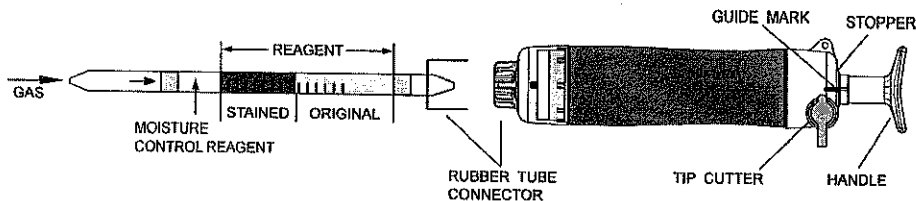

Fig.1
- ① Break both ends of detector tube.
- ② Insert the detector tube into aspirating pump securely as shown in Fig.1. (Arrow mark shall point to the pump.)
- ③ Align the guide marks on the shaft and stopper of the aspirating pump.
- ④ Pull the pump handle at full stroke until it locks and wait for 0.5 minutes or until the completion of sampling is confirmed with the flow indicator of the pump (See descriptions about the flow indicator in the instructions of the pump).
- ⑤ On completion of sampling, read the scale at the maximum point of the stained layer.